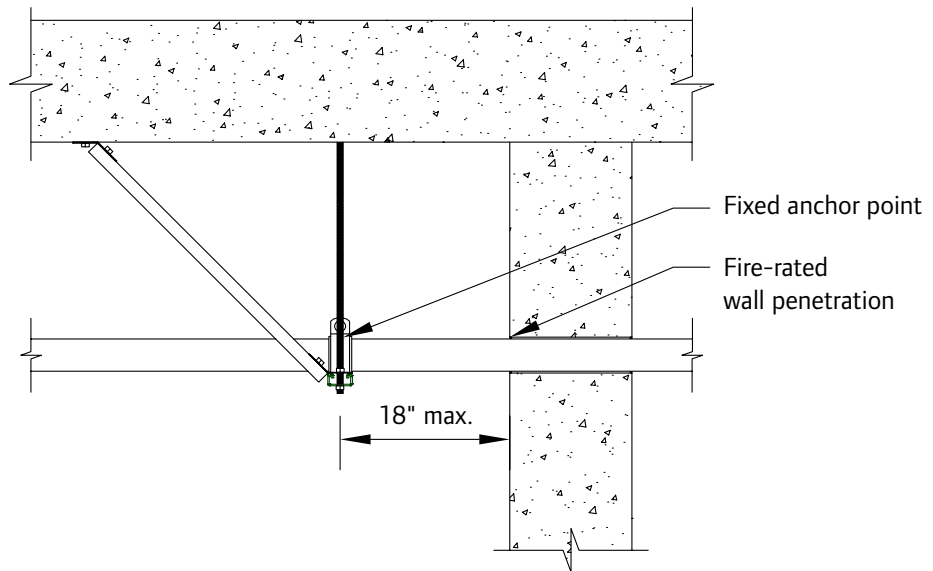

Figure 5-8: Fixed Anchor Point — Fire-rated Wall Penetration
- Installed within 18" of a fire-rated wall penetration (see **Figure 5-8**)